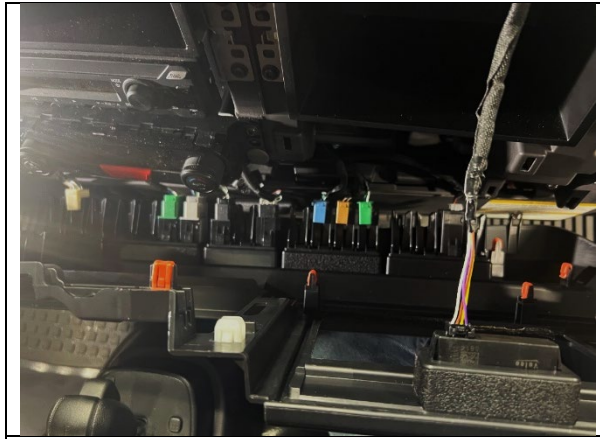

Figure 18
18. Disconnect all the connectors from the center cluster. (See Figure 18.) Remove the center cluster.